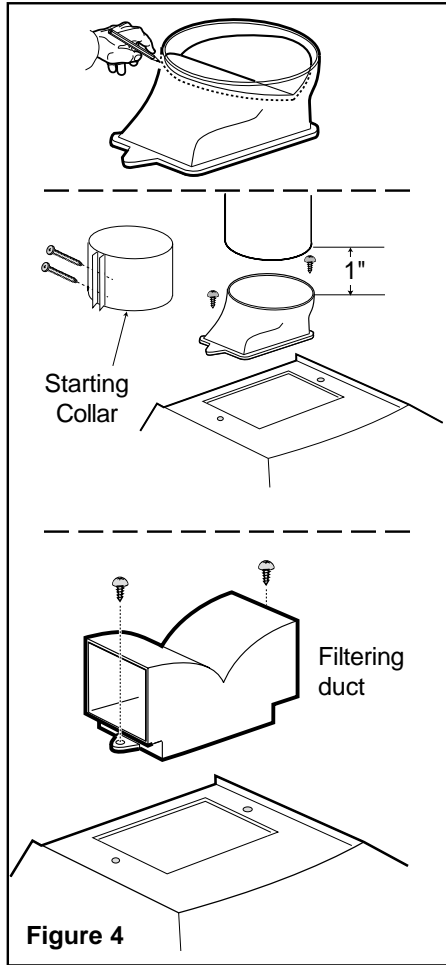

Figure 4
11. Install transition on top of hood if removed for shipping. Mark onto exterior of transition the 'V' location of the damper within. Figure 4.
15. Connect ducting (Figure 4).
A 90° elbow may be installed immediately above the hood. For serviceability, a mounting similar to the straight up discharge shown in Figure 4 should be used.